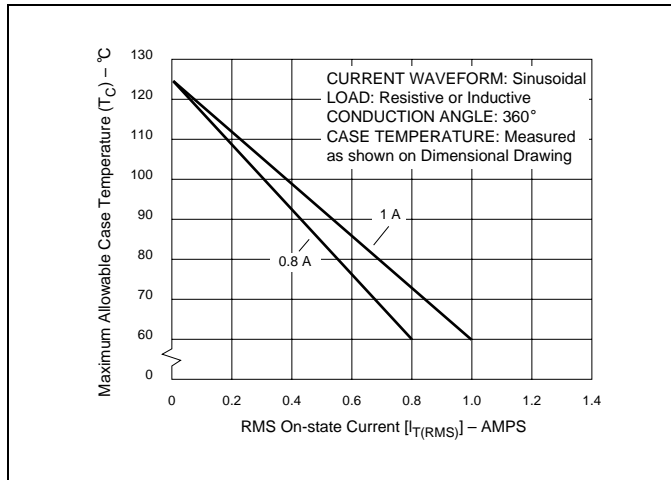

Figure E2.1 Maximum Allowable Case Temperature versus On-state Current (0.8 A and 1 A)
- (1) For either polarity of MT2 with reference to MT1 terminal
- (2) For either polarity of gate voltage ( $V_{GT}$ ) with reference to MT1 terminal
- (3) See Gate Characteristics and Definition of Quadrants.
- (4) See Figure E2.1 through Figure E2.7 for current rating at specific operating temperature.
- (11) See package outlines for lead form configurations. When ordering special lead forming, add type number as suffix to part number.
- (12) Initial on-state current = 200 mA dc for 0.8 A to 10 A devices, 400 mA dc for 15 A to 35 A devices
- (13) See Figure E2.1 through Figure E2.6 for maximum allowable case temperature at maximum rated current.
- (14) Pulse width  $\leq 10 \mu s$ ;  $I_{GT} \leq I_{GTM}$
(18) Quadrants I, II, III only
(19) Minimum non-trigger  $V_{GT}$  at 125 °C is 0.2 V for all except 50 mA MAX QIV devices which are 0.2 V at 110 °C.